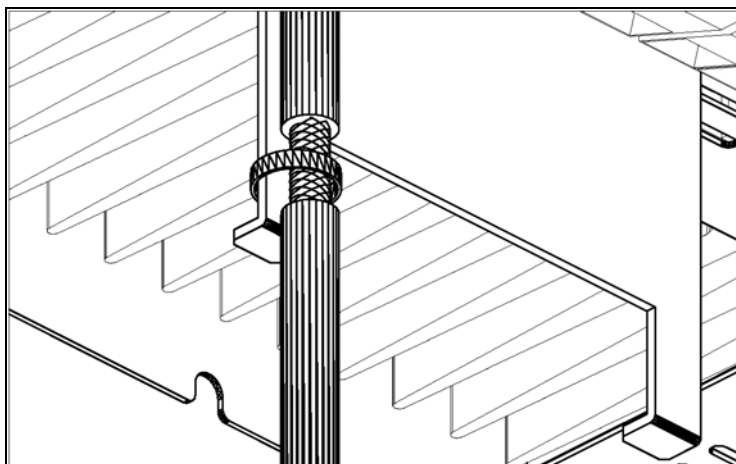

Fig. 3.2 – Grounding of shield without metallic connector
- When there is not metallic connector at drive side, a kit with stand-off, screws and metallic hose clamps is provided. The shield of the cable must be uncovered from insulation coating and RF connected to the stand-off through the metallic hose clamp, as in Fig.3.2.